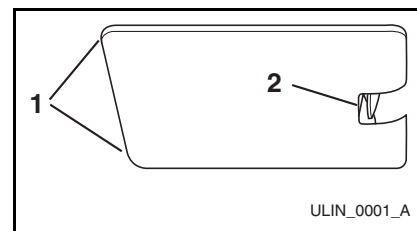

Figure 50
1. Grasp the edges of the light housing lens (**Figure 50, 1**) opposite the exposed tab, and gently push the lens towards the tab (**Figure 50, 2**).
2. Pull the edge of the lens down (**Figure 50, 1**), and swing it out of the light housing.